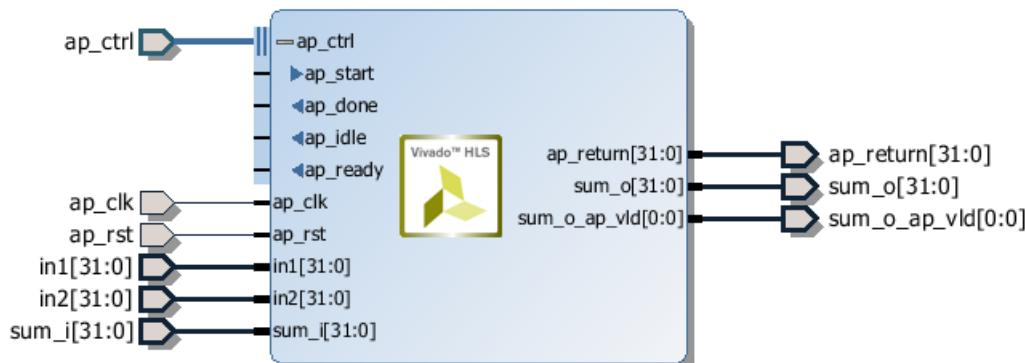

Figure 1-47: RTL Ports After Default Interface Synthesis
With the default interface synthesis settings, the design is synthesized into an RTL block with the ports shown in Figure 1-47.
- Block-Level interface protocol. These are shown expanded in Figure 1-47: `ap_start`, `ap_done`, `ap_ready` and `ap_idle`.